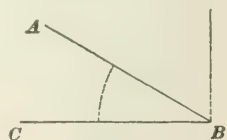

FIG. 9.
27. An **acute angle** is less than a right angle. ABC , Fig. 9, is an acute angle.